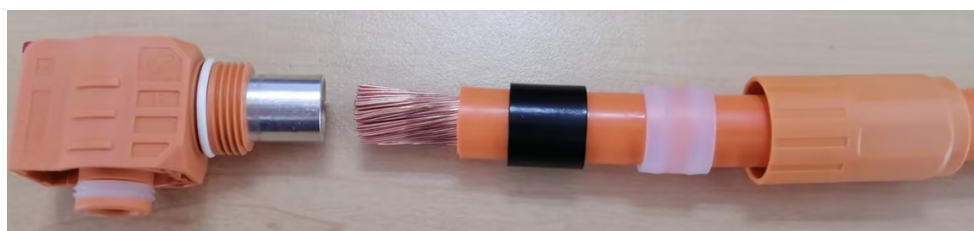

Figure 2
1.2. Remove the tail nut, cable sealing body, and tail cover, and insert them into the correct cable in turn as shown in Figure 2.